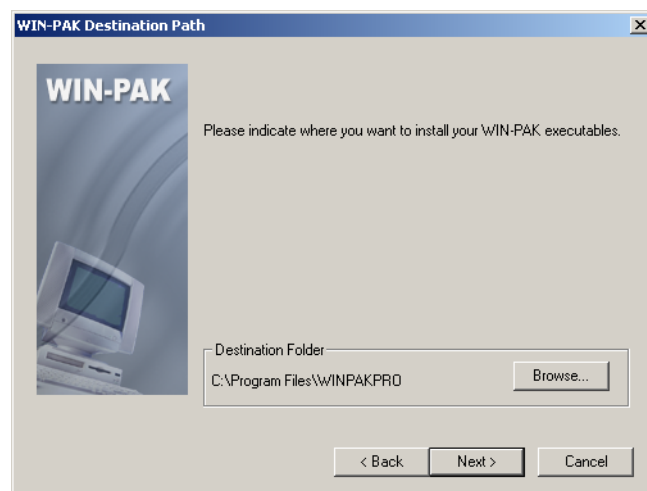

Figure 2-20 *Choose Destination Path*
1. On the **WIN-PAK Setup Type** screen, select **Database Server Only** and click **Next**. The system checks for SQL Service status and displays screen shown in Figure 2-20.